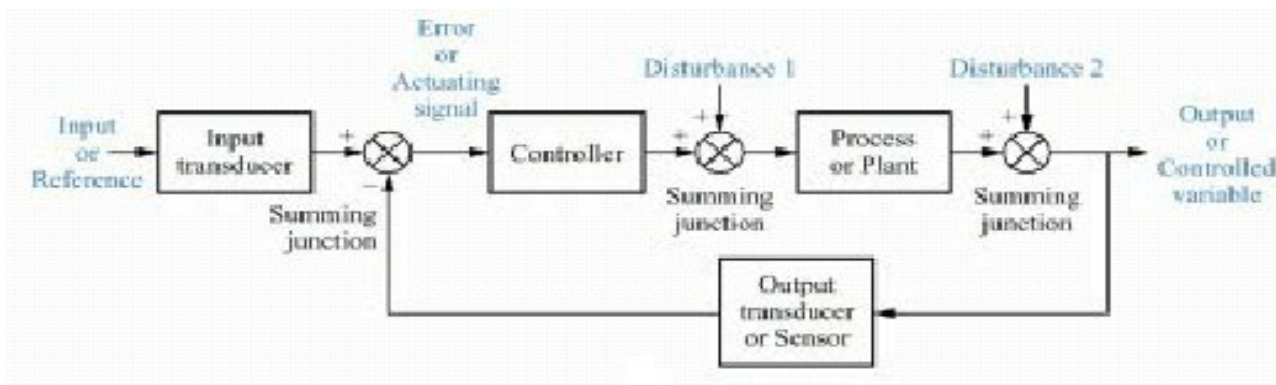

Figure 1.4: Closed-loop system
- Closed-Loop Systems (also known as **Feedback Control System**) – The disadvantages of open-loop systems may be overcome in closed-loop system as shown in Figure 1.4. An output transducer/ sensor, measures the output response and converts into the form used by controller. The closed-loop systems measured the output response through a feedback path, and comparing that response to the input at the summing junction. If there is any difference between the two responses, the system drives the plant, via the actuating signal, to make a correction. If there is no difference, the system does not drive the plant. Examples – air conditioning with temperature control, lift, washing machine (water level control)